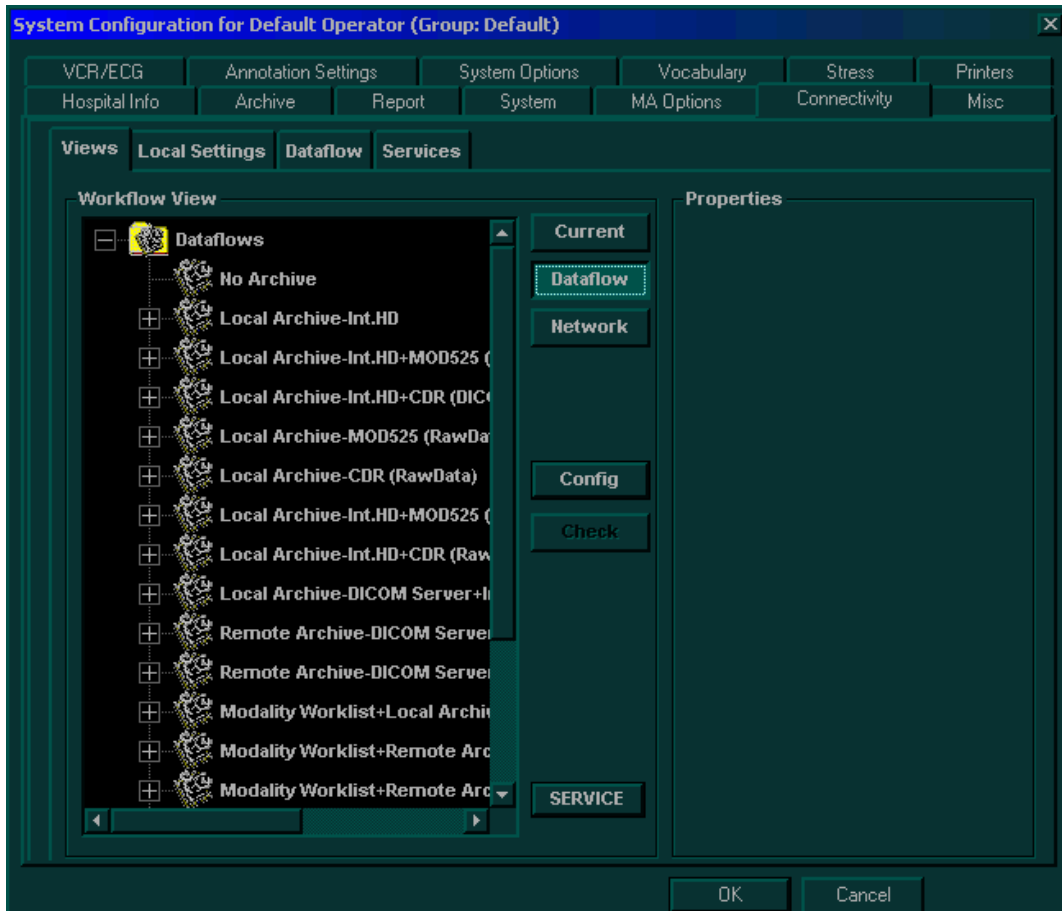

Figure 3-43 Views Tab
- 3) Trackball to the **Dataflow** button and press **Select**. The full list of data flows is displayed, as shown in Figure 3-43 on page 3-60.